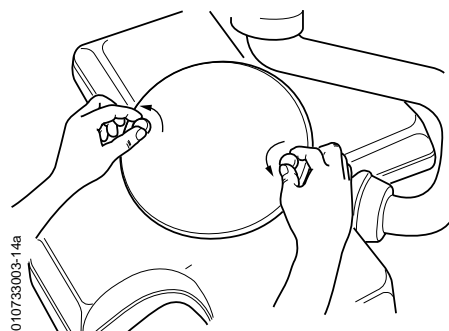

FIG. 1
- 1) Retirer le capot central (FIG. 1).